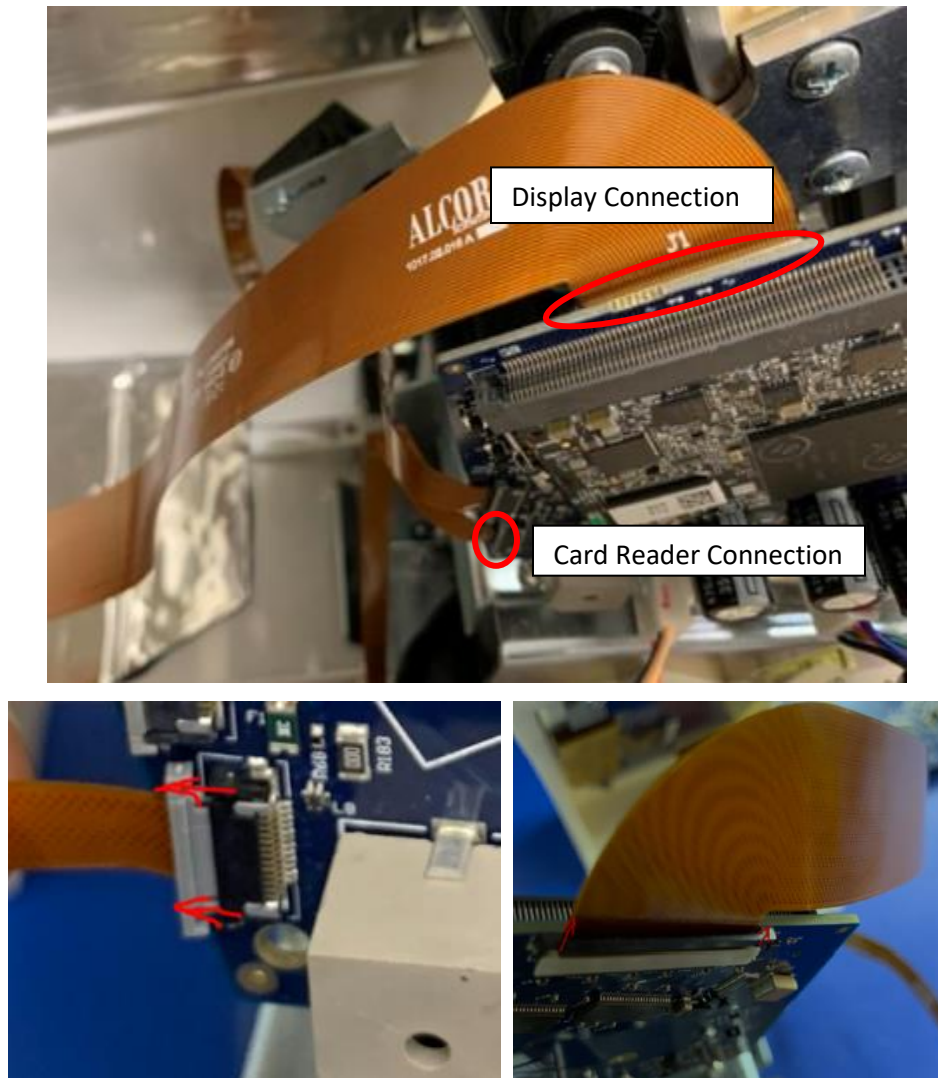

Figure 5
- 2.4. Remove Display and Card Reader connections by pulling out fastener to release the cable for each per Figure 5. This is a necessary step prior to removing the front bezel from the device to not damage the wires that are connected to the cover.